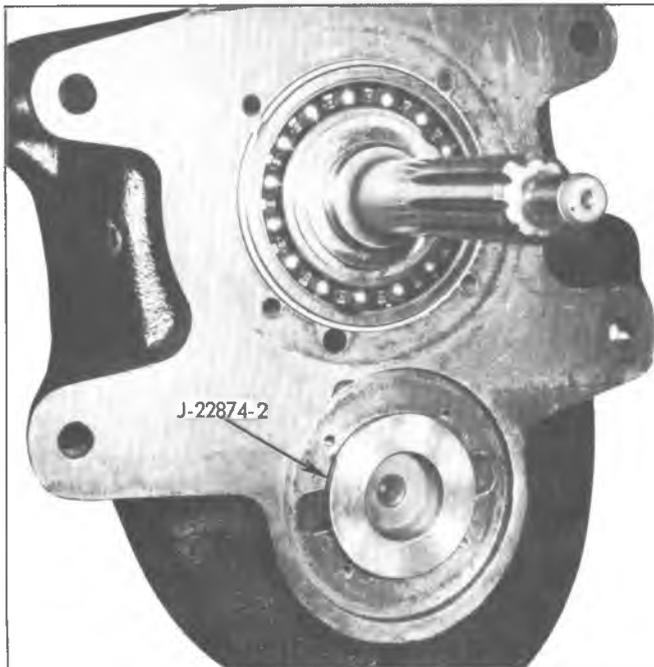

Fig. 24Q-Countershaft Front Support Tool
8. Install Tool J-22874-2 in countershaft front bearing opening in case to support countershaft and rotate case onto front end (fig. 24Q).